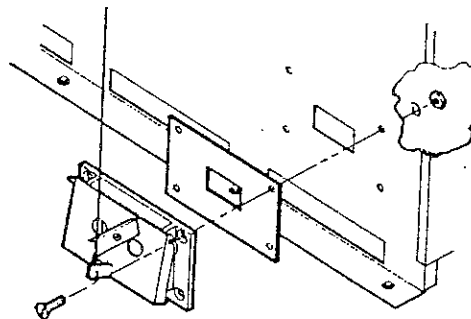

FIG. 14
3. With a short flat head screwdriver in your left hand and a ratchet wrench with 7/16" socket in your right hand, remove nuts and lockwashers from behind draft damper frame assembly as shown in Fig. 14.